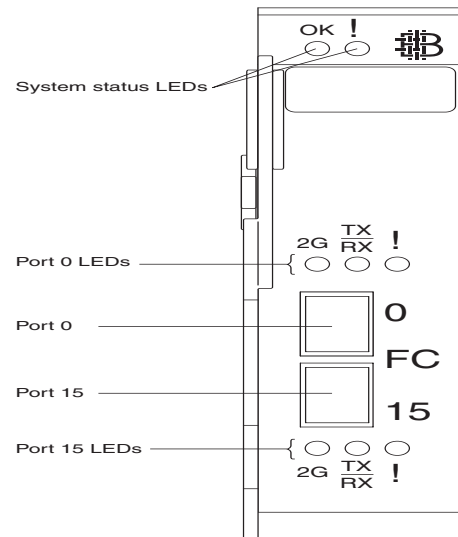

Figure 8. Fibre Channel switch-module information panel.
The switch-module information panel contains LEDs and two Fibre Channel ports, as shown in Figure 8.
- Two external Fibre Channel connectors to connect Fibre Channel devices, such as disk subsystems, tape drives, and other servers; and SAN devices, such as Fibre Channel switches, extenders, and gateways. These connectors are identified as port 0 and port 15 in the switch configuration menus and are labeled 0 and 15 (from top to bottom) on the switch module, as shown in Figure 8.